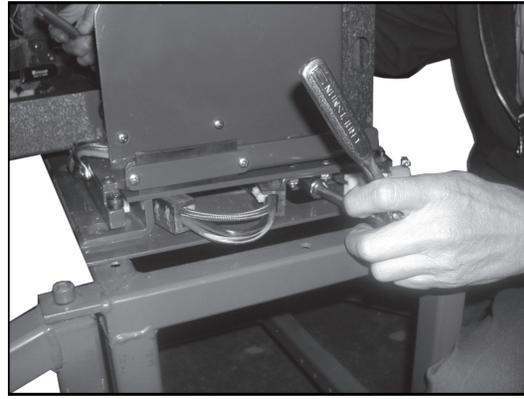

FIGURE 3-18
2. Refer to **Figure 3-18**. Remove nut that attaches gas spring to baseplate and retain for installation.